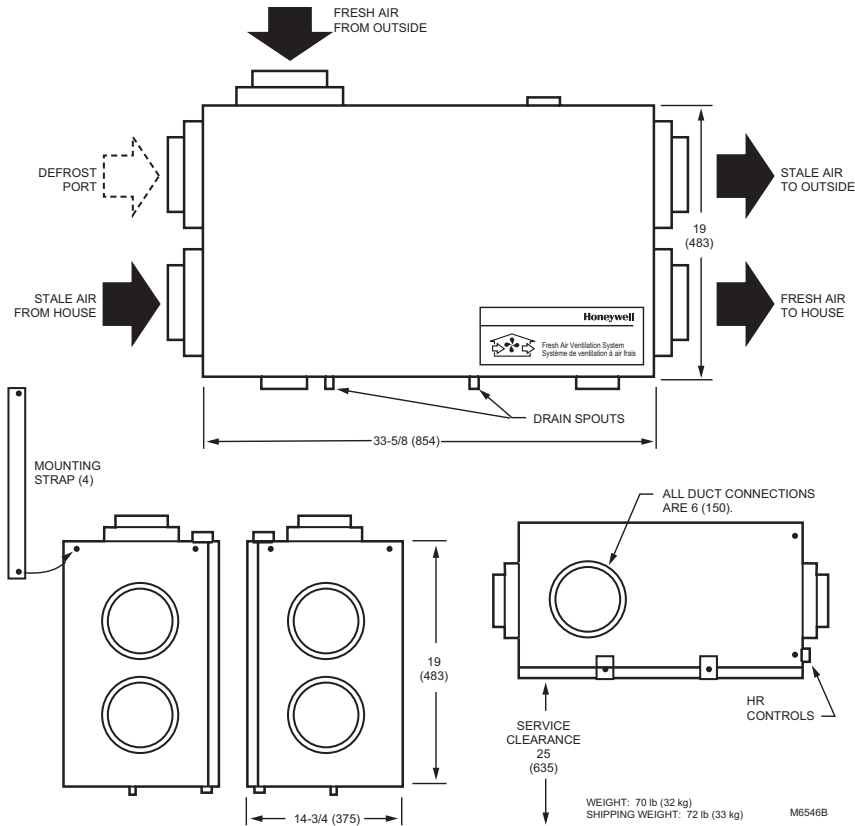

Fig. 2. HR150/ER150 and HR200/ER200 dimensions in in. (mm).
Dimensions: See Fig. 2 and 3.
1. Mount the four vibration isolation straps (provided) to the side of the ventilator using the mounting screws located on the cabinet. See Fig. 2 and 3.